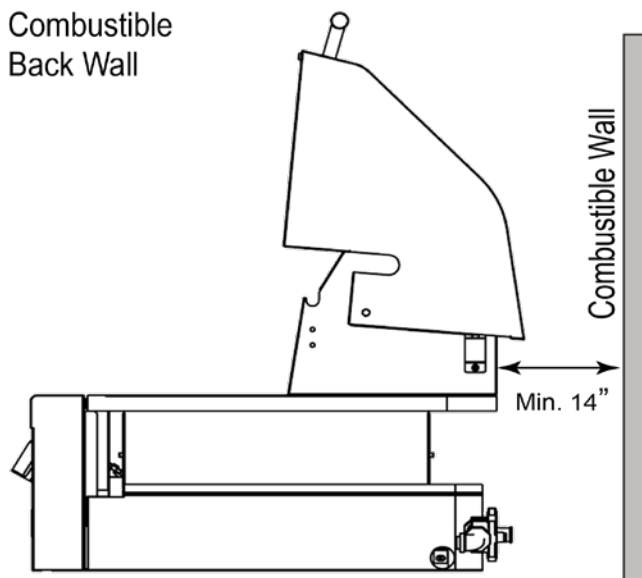

Figure 4
**Clearance from the grill and combustible wall** (Clearance Figure 4). The grill must have a minimum clearance of 14" from the right side, left side and rear of the grill to any combustible wall.